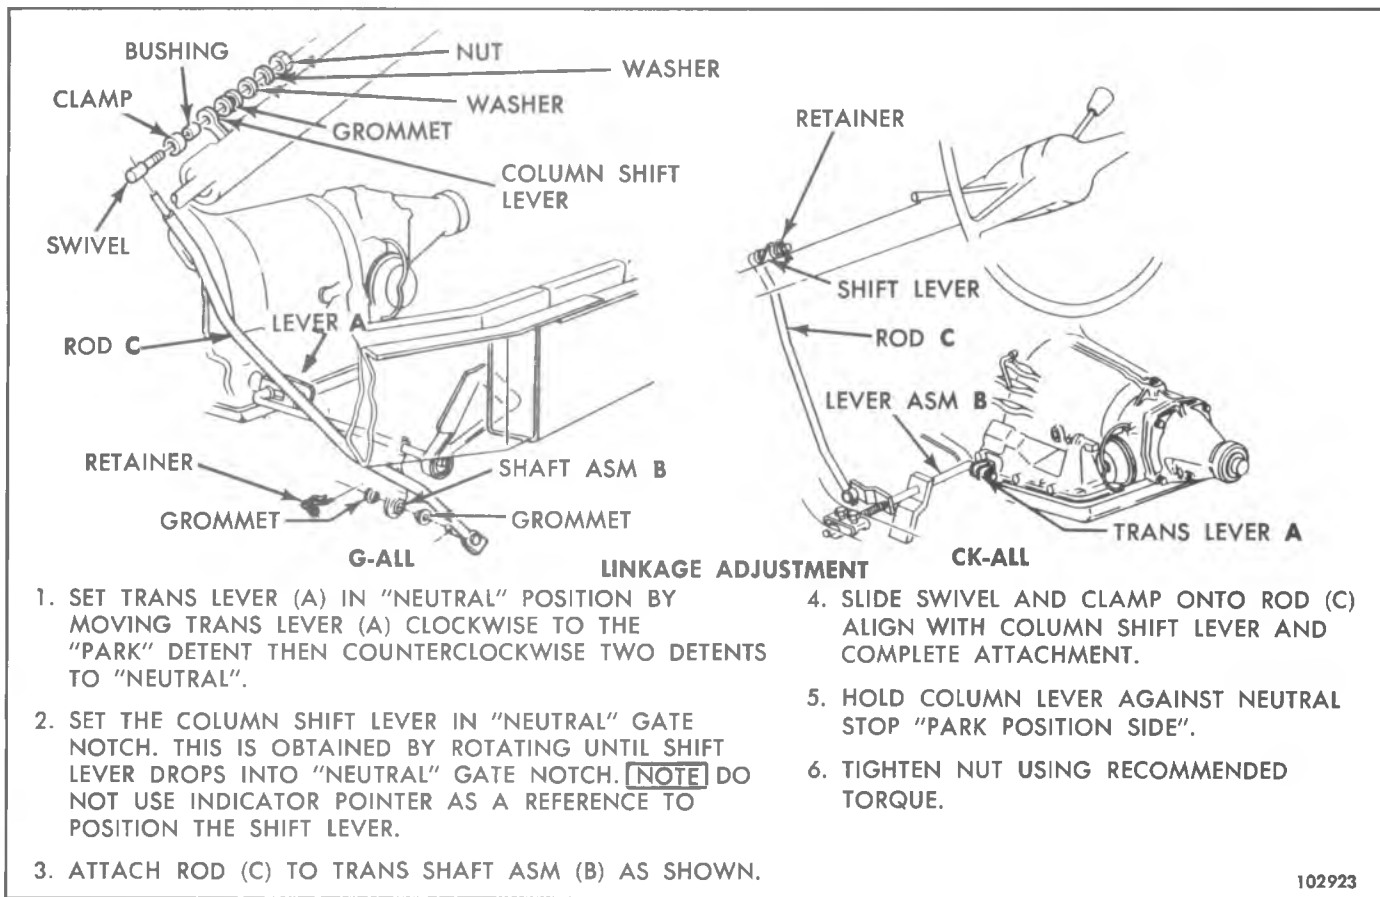

Fig. 7A-25--Column Shift Linkage Adj.
1. Cut off one end of each governor weight pin and remove pins, governor thrust cap, governor weights, and springs. Governor weights are interchangeable from side to side and need not be identified. (Fig. 7A-27).